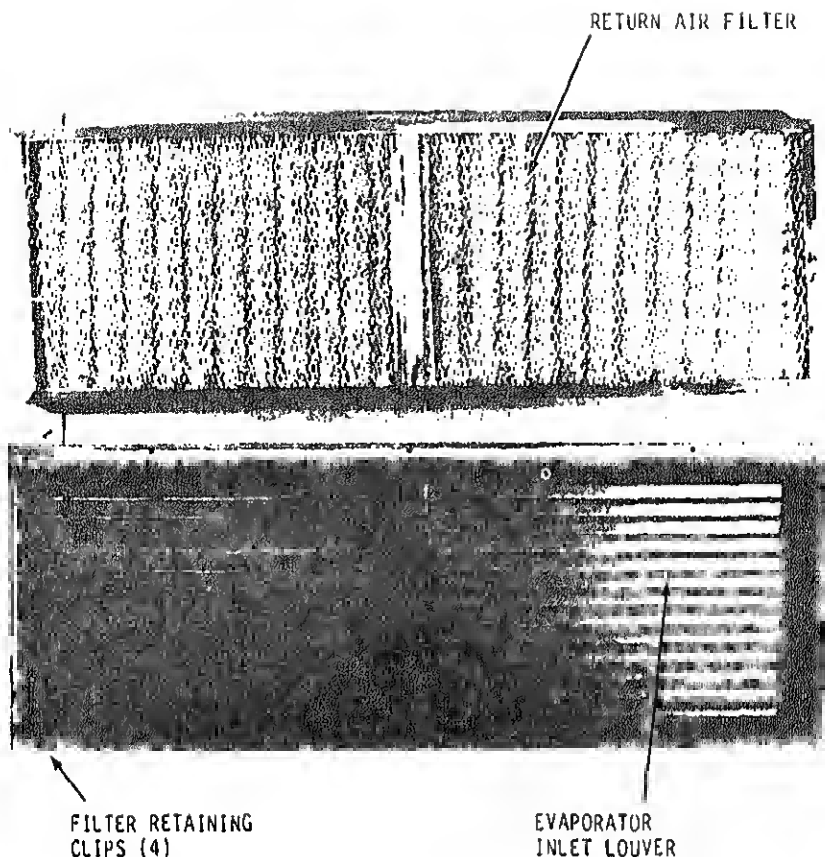

Figure 4-2. Return air filter
(2) Refer to figure 4-2 and remove the return air filter from the four corner retaining clips.
(1) Refer to figure 4-2 and slide the air filter into four filter retaining clips.